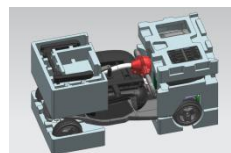

Figure 11.3
3. Put on the battery and the car basket weights, close the carton and secure it with professional ropes to form a complete package (Figure 11.3).